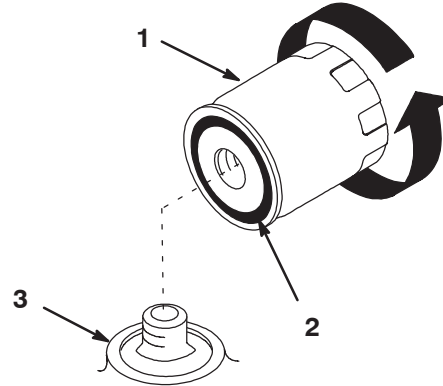

Figure 39
9. Change the oil filter, if necessary (Fig. 39).
2. Remove the old filter and wipe the filter adapter (Fig. 39) gasket surface.
3. Apply a thin coat of new oil to the rubber gasket on the replacement filter (Fig. 39).
4. Install the replacement oil filter to the filter adapter. Turn the oil filter clockwise until the rubber gasket contacts the filter adapter, then tighten the filter an additional 1/2 turn (Fig. 39).